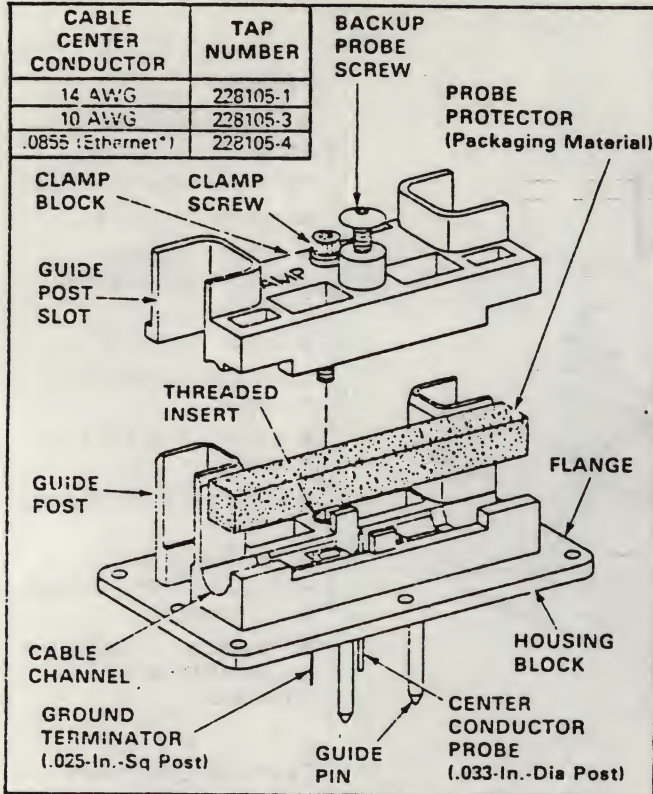

Fig. 1
This instruction sheet (IS) covers installation of AMP Active Coaxial Taps onto any of the various cables used as a bus in data-generating and data-receiving equipment network systems. See Figure 1.
1. Unthread clamp screw, then remove clamp block and discard probe protector (Figure 1).